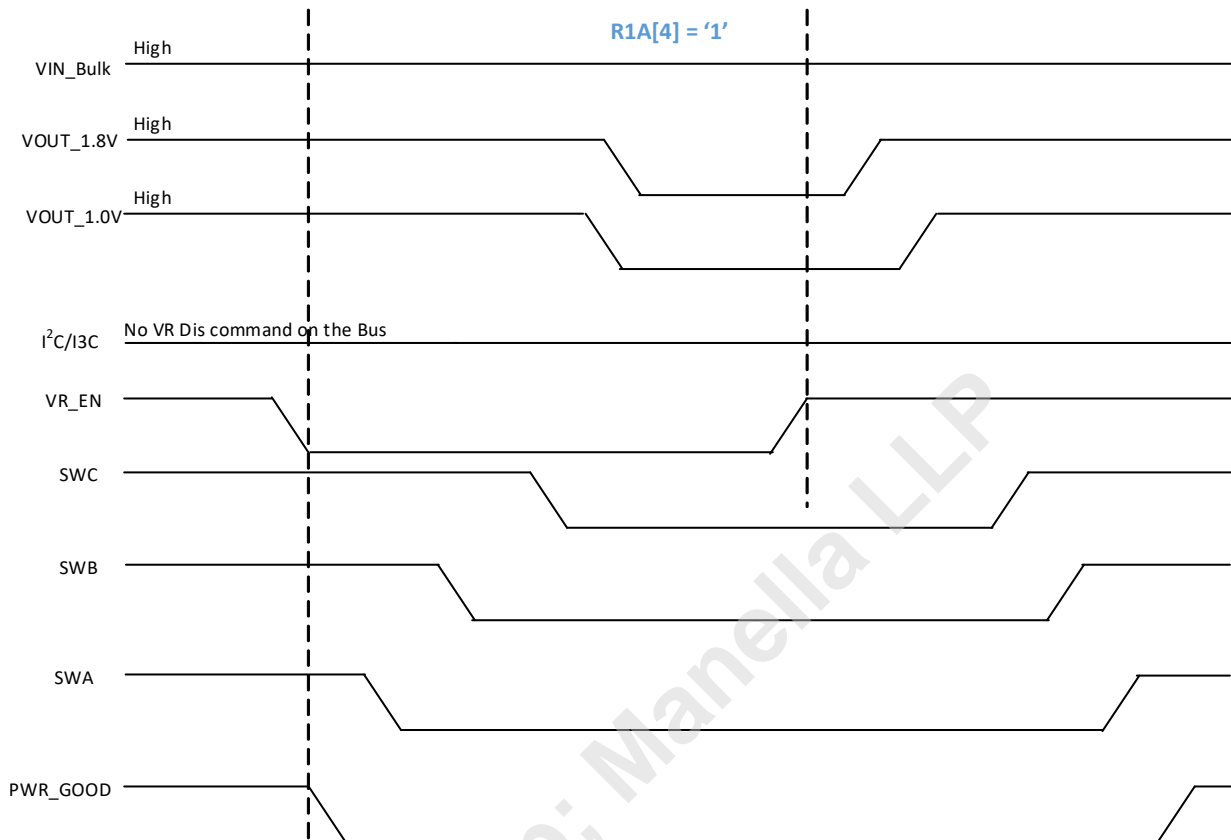

Figure 28 — Power Down with VR_EN Pin; R1A[4]=1; Program. Mode; PWR_GOOD Signal
- a. If VR Disable command with a pin (i.e., VR_EN pin transitions to Low), PMIC asserts PWR_GOOD signal Low. The host can re-enable the PMIC’s output regulators by VR_EN pin transition to High. The PMIC exits from P1 state and executes power on sequence config 0 to power on sequence config 2 registers and floats PWR_GOOD signal after tPMIC_PWR_GOOD_OUT timing parameter is satisfied. See Figure 28. The PMIC does not require power cycle.